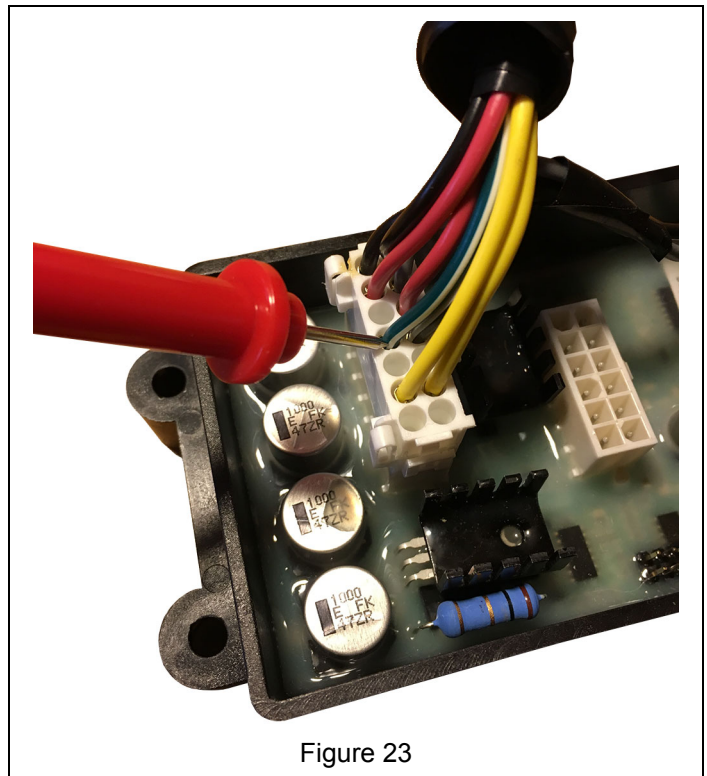

Figure 23
3. With a multi-meter, measure the V DC of the green / white wire. See Figure 23.